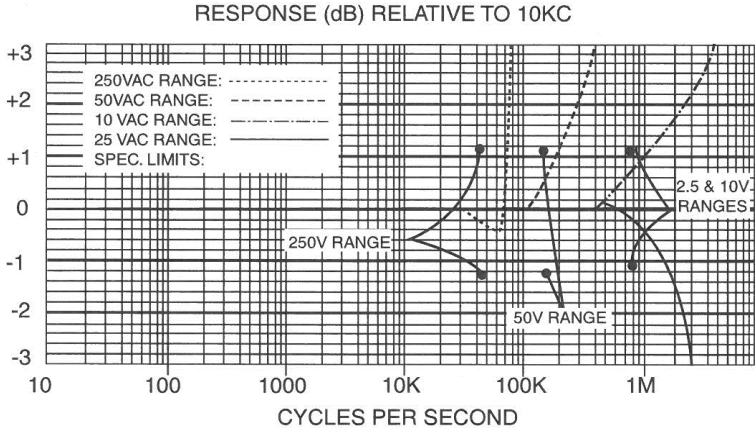

Figure 1-1. Typical Frequency Response Curve
* See typical Response Curves, Figure 1-1.